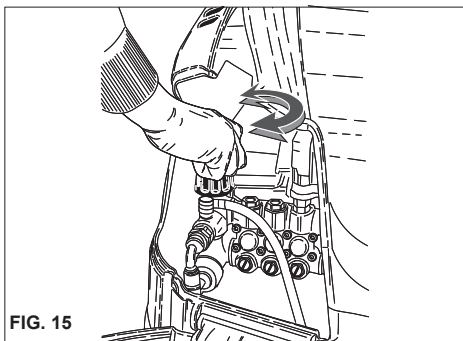

FIG. 15
This chapter concerns only those models provided with the "pressure regulating" device. The pressure regulator, fig. 15, allows the operator to adjust the working pressure. When knob C is turned in an anti-clockwise direction (B) (minimum), the working pressure is reduced.
- 2) Start the cleaner, activate the detergent suction control on the lance (fig. 15) and spray the surface to be washed, working from the bottom upwards. Leave to work for a few minutes..